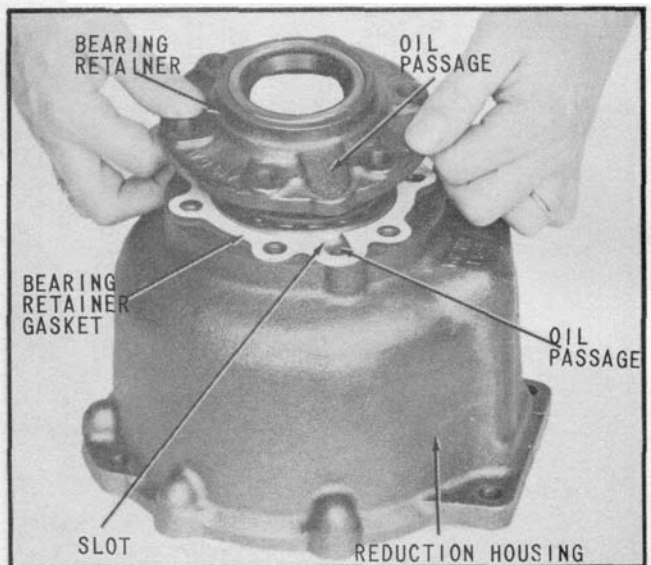

Fig. 26 Installing Bearing Retainer and Gasket
25. Place bearing retainer gasket on reduction housing, aligning the slot with the passages as shown in (Fig. 26). Gasket may be coated with petroleum jelly for easier assembly.
26. Inspect rubber lip of the oil seal for cuts, cracks or other damage which might cause leakage and replace if necessary. Oil seal is pressed in flush with the rear retainer face. Assemble the bearing retainer onto reduction housing aligning the oil passages as shown in (Fig. 26).